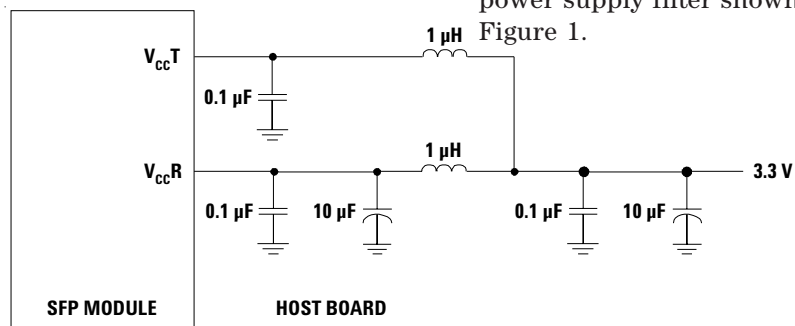

Figure 1 - MSA required power supply filter
The HFCT-5710L/LP can withstand an injection of PSN on the V_{CC} lines of 100 mV ac without a degradation in eye mask margin to 10% on the transmitter and a 1 dB sensitivity penalty on the receiver. This occurs when the product is used in conjunction with the MSA recommended power supply filter shown in Figure 1.
- MSA filter is required on host board 10 Hz to 1 MHz. See Figure 1 (Page 2)